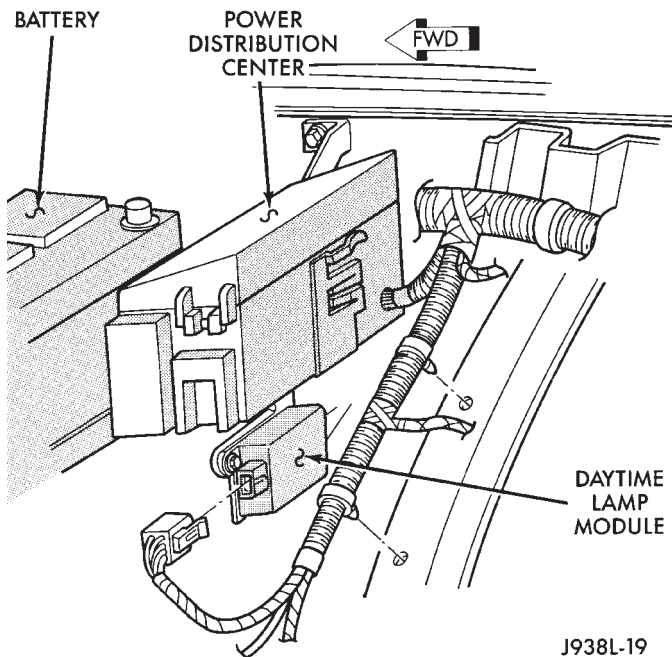

Fig. 1 Daytime Running Light Module
(1) Remove bolts holding module and bracket to vehicle (Fig. 1).
(2) Disconnect electrical connector.